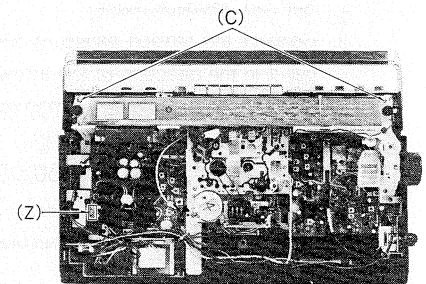

Fig. 4
※1; Remove speaker connector (Z) shown in fig. 4.